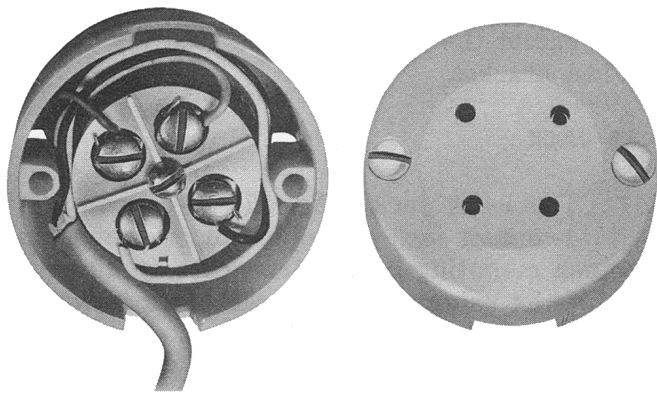

Fig. 18 — 549A Jack
2.18 The 549A jack (Fig. 18) is a one-piece, 4-contact, nonflush-type jack intended for baseboard mounting. Two wood screws are furnished for mounting the jack.